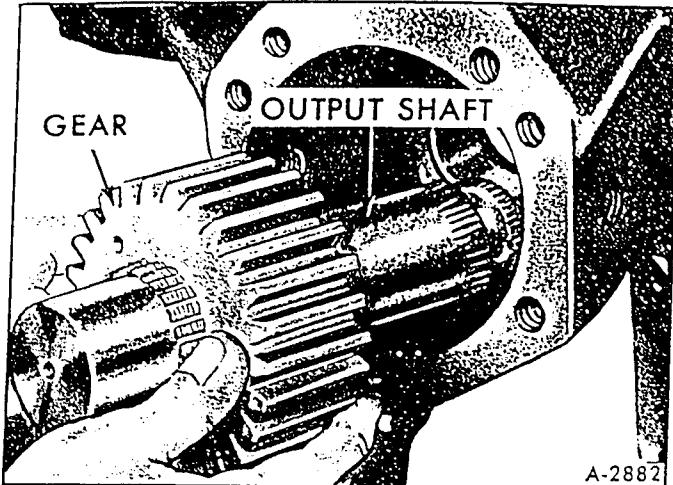

Figure 12 - Removing Output Shaft and Gear (Typical)
6. If output shaft and pinion gear assembly was not removed with the cover, lift assembly from housing (fig. 12).